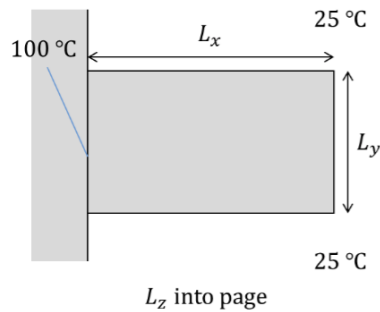

Figure 1: Long Rectangular Fin Attached to Heat Source
**Goal:** Solve Equation (1) from an initial time  $t_0$  to a final time  $t_f$  for the temperature distribution across the 2D rectangular fin in Figure 1 (as a function of time) using a finite-difference method.